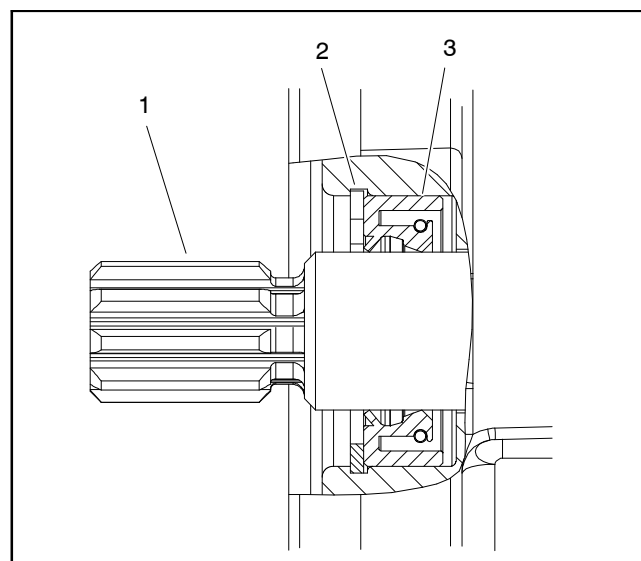

Figure 125
10. Carefully remove retaining ring and shaft seal from the front plate (Fig. 125). Note orientation of seal lips during removal. Discard removed seal.
2. Install new shaft seal in front plate. Note orientation of seal lips during installation (Fig. 125). Seal should be pressed into place until it reaches the bottom of the bore.